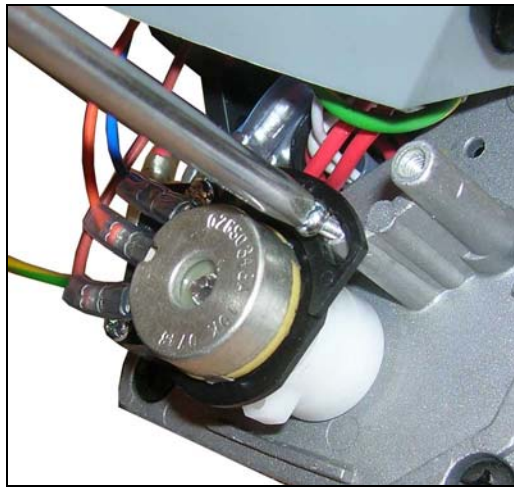

Fig. 9
7. Put the pot back in the motor. Be careful to not twist it. Once the pot is in place, verify that the ohm value is still in the desired range. Install the two screws and tighten the pot in place (Fig. 9).